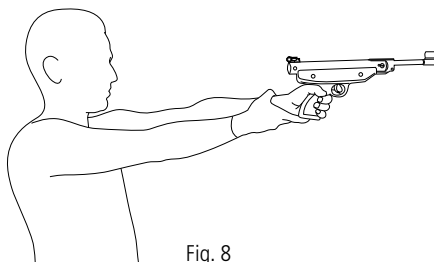

Fig. 8
- Sight in*, disengage safety and get ready for shooting. (Fig. 8)